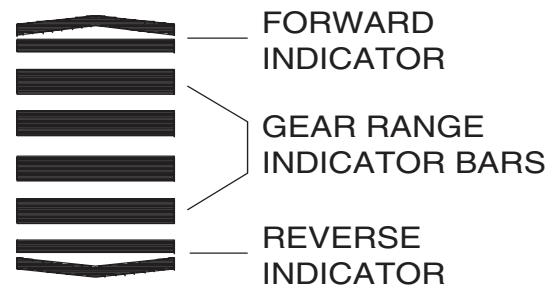

Fig 19
A. Indicates travel direction and gear selection. See Fig 19 for more detailed information.